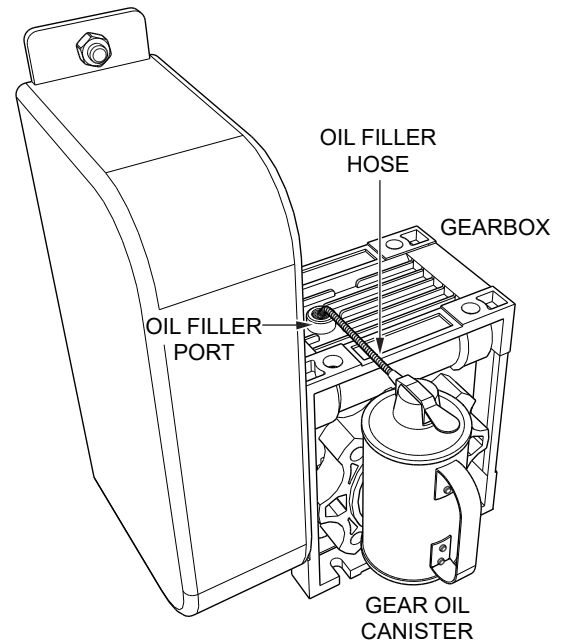

Figure 35. Adding Gear Oil
7. Insert oil filler hose from gear oil canister into **oil filler port** as shown in Figure 35.